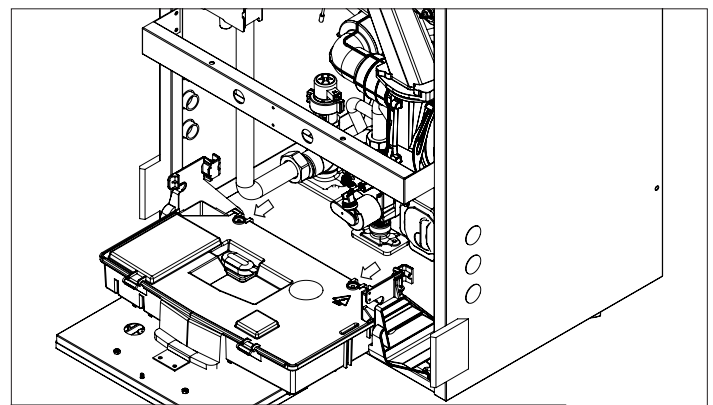

Figure 47 - Disconnecting the Two Clips
6. Disconnect the two clips See Figure 47.